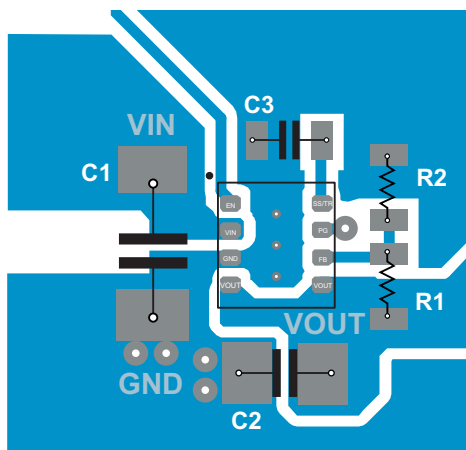

Figure 28. TPS82130 PCB Layout
- Refer to Figure 28 for an example of component placement, routing and thermal design.